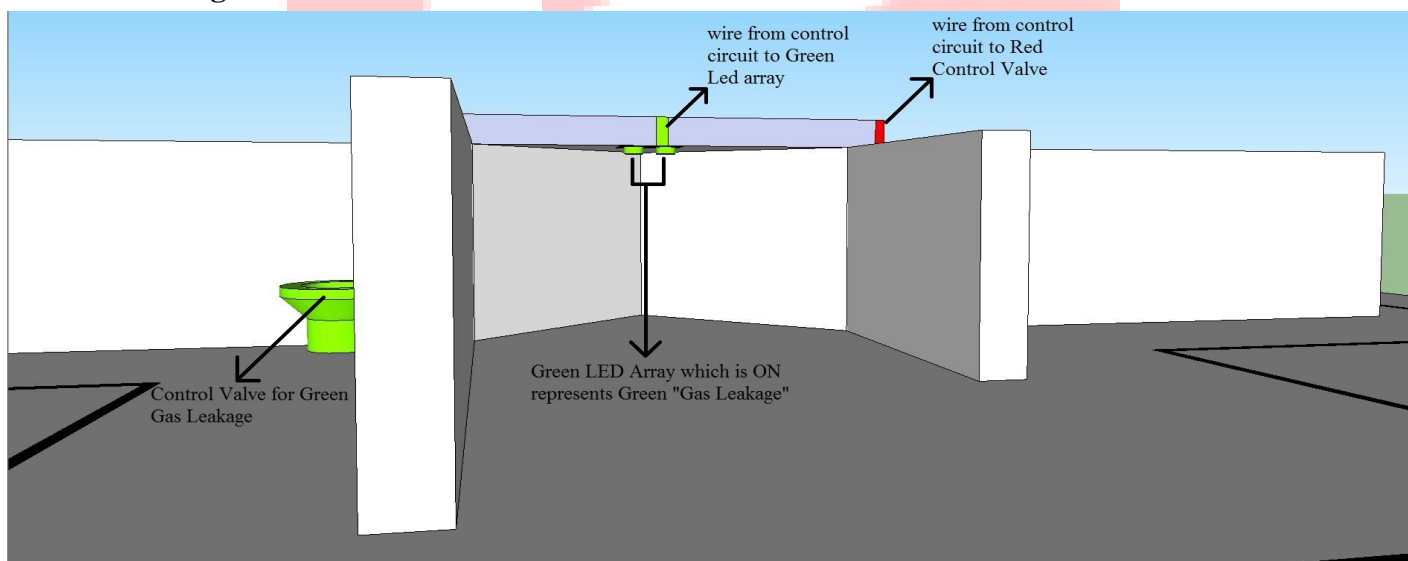

Figure 2: The LED Array and their Control Valves attached through wires
- **Gas Leakage:** To represent the Gas Leakage, we have used 2 Red, 2 Green and 2 Blue LEDs in three of the four Pipeline Areas. These LEDs are part of the LED Array (Refer to Section 3.3). Figure 2 depicts one such example of a Gas Leakage in one of the Pipeline Areas.